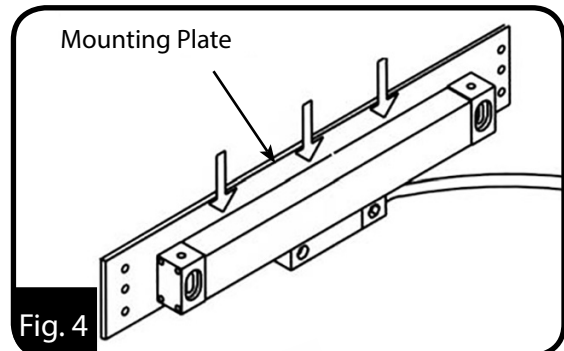

Fig. 4
5. In cases where machined flat surfaces are not available, optional backing plates should be used to provide a flat datum for the installation. (Fig. 4)